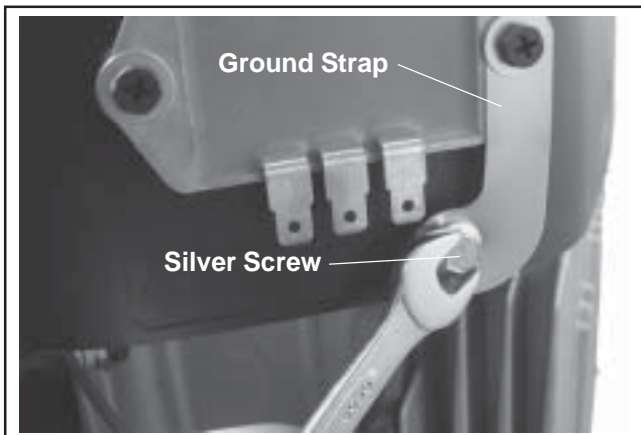

Figure 9-31. Rectifier-Regulator Ground Strap.
6. Remove the remaining hex flange screws securing the blower housing. Note the one silver plated screw used for the rectifier-regulator ground strap or lead. Remove the blower housing. See Figures 9-31 and 9-32.